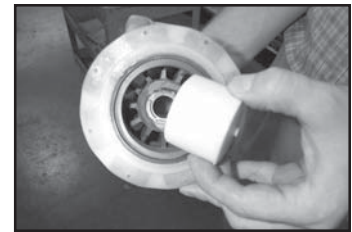

figure 22
1. Place a piece of tubing with an ID of 1 ¼” at the rear center of the impeller drive assembly (see figure 22). This tubing protects the lip that the bushing stops against. Place the impeller and impeller drive assembly in an arbor press with the suction side up.